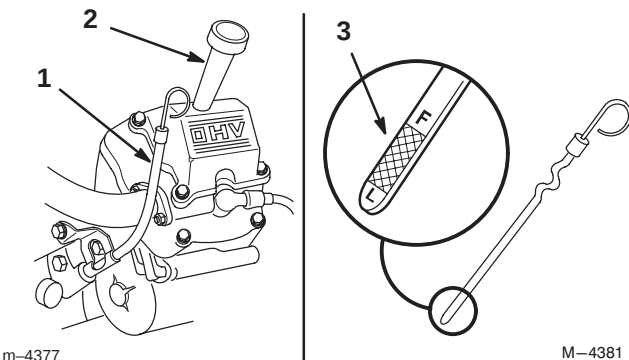

Figure 38
2. Clean around the oil dipstick so dirt cannot fall into the filler hole and damage the engine (Fig. 38).
3. Pull the oil dipstick out and wipe the metal end clean (Fig. 38).
4. Slide the oil dipstick fully into the filler tube. Pull the dipstick out and look at the metal end (Fig. 38). If oil level is low, slowly pour only enough oil into the filler tube to raise the level to the "FULL" mark.
5. Slowly pour approximately 80% of the specified amount of oil, page 31, into the filler tube (Fig. 38). Now check the oil level; refer to Checking Oil Level, page 32. Slowly add additional oil to bring to "FULL" mark on dipstick.